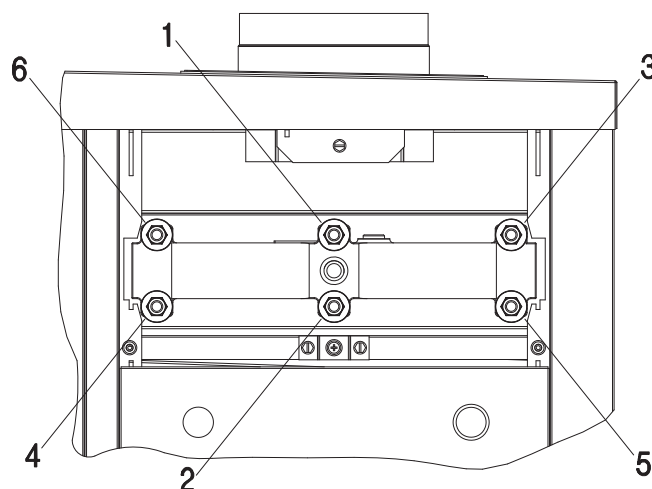

Fig. 9: Torque Sequence
13. Slowly tighten the flange nuts, starting from the center nut (number 1) in Fig. 9 and working sequentially around the header as indicated. Torque all nuts to 25 ft/lb. **DO NOT OVER-TIGHTEN.**